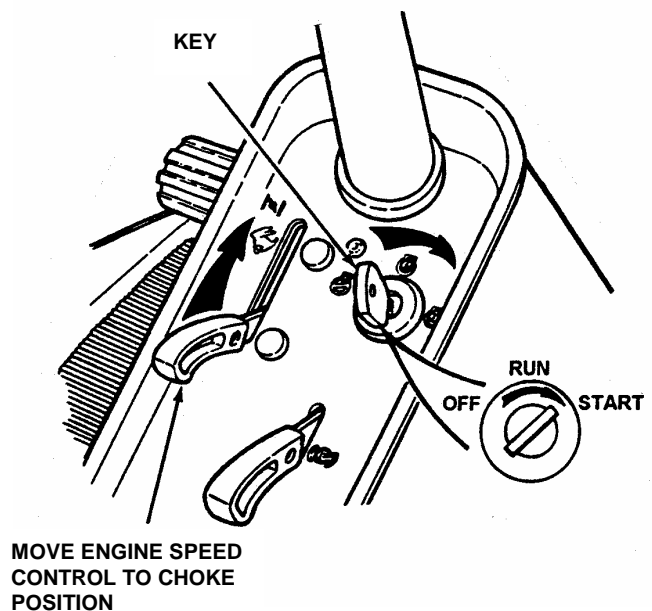

FIGURE 2.7
5. Move engine speed control to the choke position to start a cold engine. See Figure 2.7.
6. Turn key to the "START" position until engine starts. See Figure 2.7. **NOTE:** If after 5 seconds of cranking the engine and it does not start, release the key, make sure the Clutch/Brake Pedal is fully depressed and attempt starting again after waiting for approximately 20 seconds.
1. Move transmission shift lever to (N) Neutral position. DO NOT start engine with transmission shift lever in a drive position.